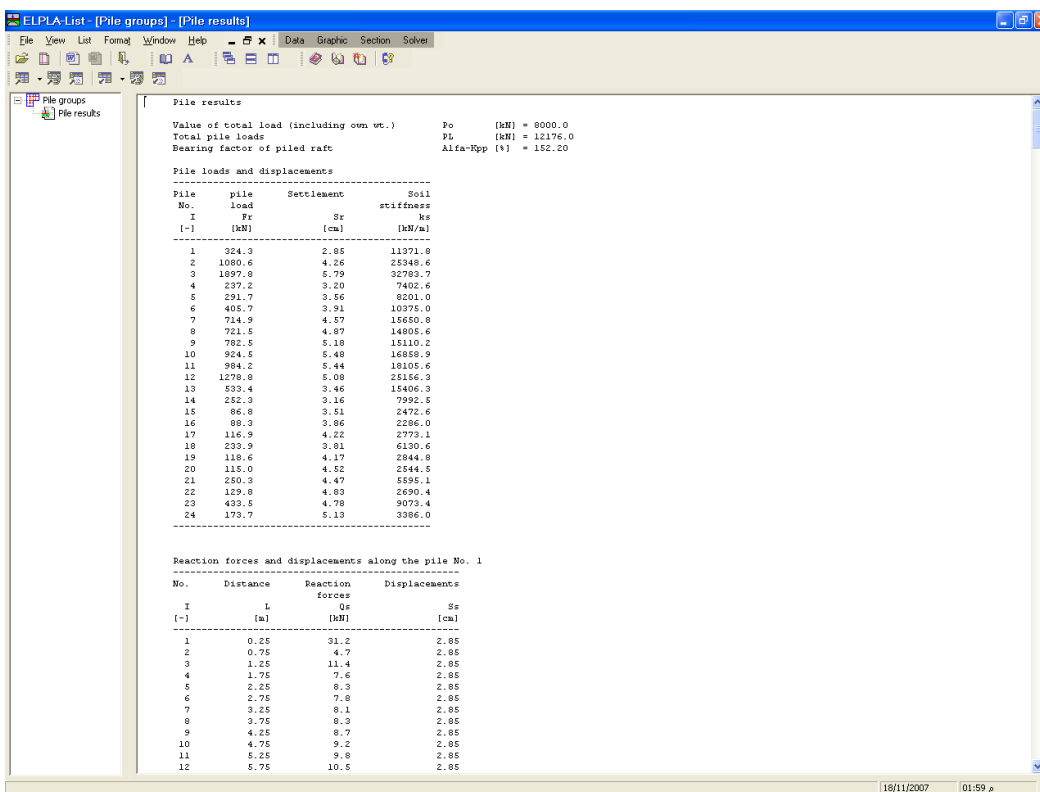

Figure 11-42 List of settlement results
- Click "OK" button. The pile results are now listed on the screen (Figure 11-42)